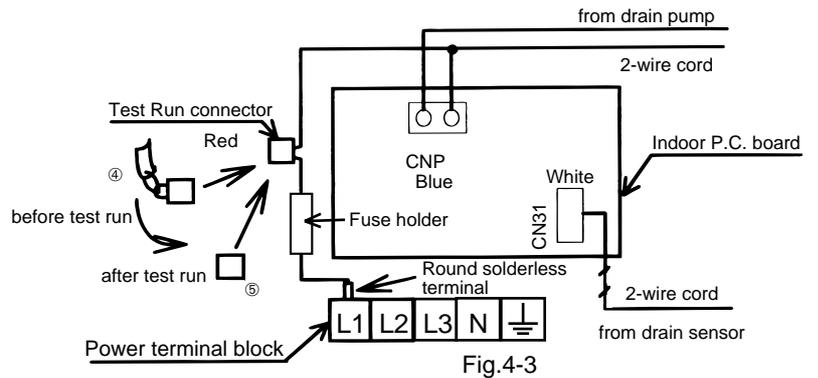

Fig.4-3
2. Connecting the pump wires to the control box of the indoor unit (Fig. 4-3)
- Connect the blue connector of the 2-wire cord to CNP on the indoor P.C. board inside the control box, and fix the fuse holder to the specified position (Photo 4-4) inside the control box using two PTT screws ⑧. The round solderless terminal must be connected to [L1] of the power terminal block.
- When wiring is complete, fasten the remaining cords with the band ⑦.